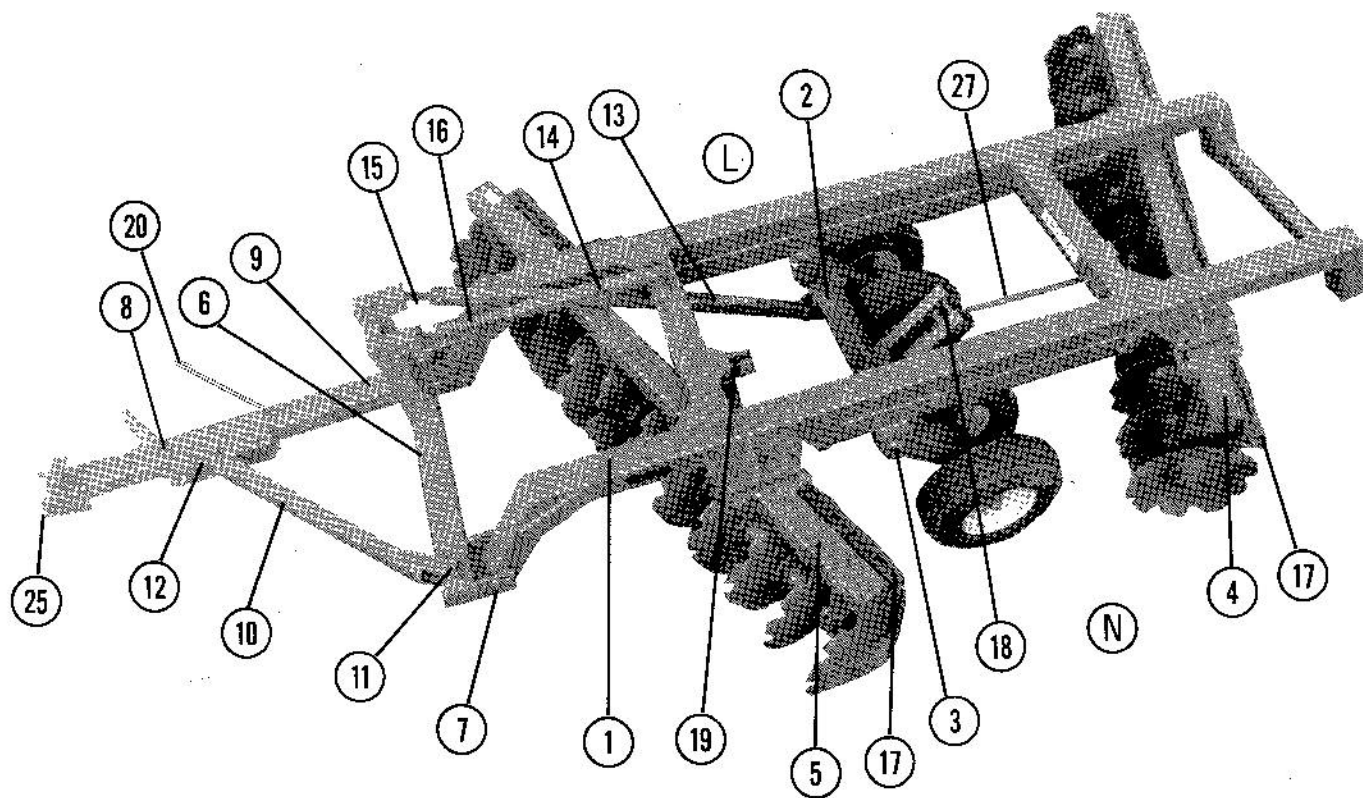

Figure 1
- To Install Wheel Carriage and Wheels:** (Refer to Figure 1) Place wheel carriage(2) under the main frame(1) and attach frame with pins(3). Install 5/16 x 2 lock bolts in pins and tighten lock nuts securely. Install wheels on to hubs with wheel bolts provided and tighten securely.
- To Attach Gang Bars to Frame:** (Refer to Figure 1) Bolt rear gang bar(4) to main frame(1) in center set of offsetting holes and in next-to-maximum angle with $\frac{7}{8}$ x 3 1/2 bolts. Install leveling washers on top of angling plates on long side of disc(L). Install leveling washers between gang bar and angling plates on narrow side of disc(N). Bolt front gang bar(5) to main frame in next to maximum angle with $\frac{7}{8}$ x 3 1/2 bolts. Install leveling washers same as rear gang.
- To Attach Hitch Bridle to Frame:** (Refer to Figure 1) Place bridle(6) at front of frame(1) and attach with pins(7). Install lock bolts and tighten nuts securely.
- To Attach Hitch Pole to Bridle:** (Refer to Figure 1) Attach main hitch pole(8) to bridle(6) at lead corner(9) with 1 x 6 bolt. Attach hitch side arm(10) to opposite side of bridle(11) with 1 x 6 bolt. Join hitch pole and side arm with 1" pin at adjustable eye bolt(12). Tighten all bolts securely.
- To Attach Fore-Aft Leveling Assembly:** (Refer to Figure 1) Install short tube(13) to wheel carriage with 1" pin. Install long tube(14) with 1" pin. Slide short fore-aft eye bolt(15) into bottom tube(13) (pinned to wheel carriage) and pin to bottom hole of bridle mast(6). Slide long fore-aft eye bolt c/w spring and washers into top tube(14) (attached to main frame) and pin to top hole of bridle mast(6).
- To Attach Scrapers:** (Refer to Figure 1) Attach scraper bars(17) to gang bars (4 & 5) with carriage bolts provided. Attach scrapers to scraper bar with clamps and bolts provided use care to adjust scrapers close to discs but not rubbing.
- To Double Wide Right and Left Hand Offsets:** (Refer to Double Wide drawing). Set together following regular instructions except item No. 4 - to attach hitch pole to bridle - the hitch pole is attached to the opposite side from the lead corner and the side arm is attached to the lead corner with 1 x 6 bolt. Set left hand disc(1) stationary and pull right hand disc(1) along side leaving front gang of right hand disc behind front gang of left hand disc. Attach rear spreader bar(5) with pins. Attach front spreader bar(6) with pins. Join right hand main hitch pole to left hand main hitch pole(3) with 1 1/4" pin(7). Adjust swivel flapper with 1 x 6 bolt for proper direction(8).
1. **Hydraulic Cylinder and Hoses:** (Refer to Figure 1) A standard 8" stroke double acting hydraulic cylinder is required to lift disc. Two 18 ft. hydraulic hoses are needed to allow full offsetting and turning without hose damage.
2. **Angle Changing:** (Refer to Figure 1) To change angle. Raise disc on wheels unit discs are clear of ground. Remove bolt(21) and loosen the three remaining bolts. Slide gang bar forward or backward as desired. Replace bolt and tighten all bolts securely. For ordinary conditions set both front and rear gangs in next to maximum angle. Increase angles as required to suit conditions.
4. **Offsetting The Hitch:** (Refer to Figure 1) This unit is designed to trail straight behind the tractor. Minimum side draft will be obtained when the hitch is in line with outside beam of main frame. If more adjustment is required screw hitch side arm eye bolt(12) to desired position, then retighten jamb nut to reduce pressure on eye bolt thread.
- A. **Front to Rear:** (Refer to Figure 1) Width disc raised and hitch to tractor, adjust bottom fore-aft eye bolt(15) until main frame is level. Adjust fore-aft spring lock(16) until spring is snug. The top spring should be under some compression when discing, but should never be compressed solidly. NOTE: In general use as little pressure as possible when discing.
6. **Transporting:** (Refer to Figure 1) Disc may be transported without using hydraulic cylinder. Place the rod(27) through the hole in anchor on frame(1) and place clevis over transport block. Raise the disc until the cylinder has reached the end of its stroke. Insert pin in clevis and adjust transport rod nut until there is about $\frac{1}{8}$ " between nut and transport anchor. Release pressure on hydraulic cylinder and remove. **CAUTION:** extreme care should be taken not to collapse the cylinder too much with the transport rod in transport position.